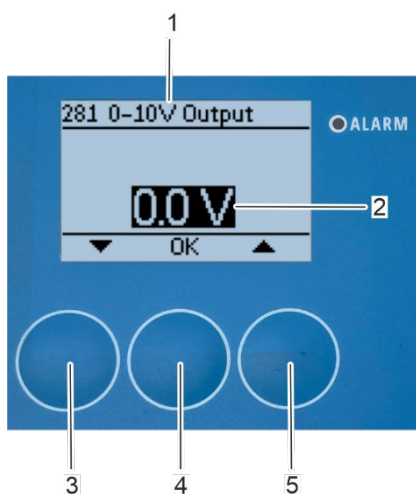

Fig. 144: Set voltage output signal to 0 V
⇒ The “281 0-10V Output” submenu (Fig. 144/1) appears on the display.
6. Reset the voltage signal to 0 V (Fig. 144/2) with the arrow keys [up] (Fig. 144/5) and [down] (Fig. 144/3).
7. Confirm the setting with [OK] (Fig. 144/4).